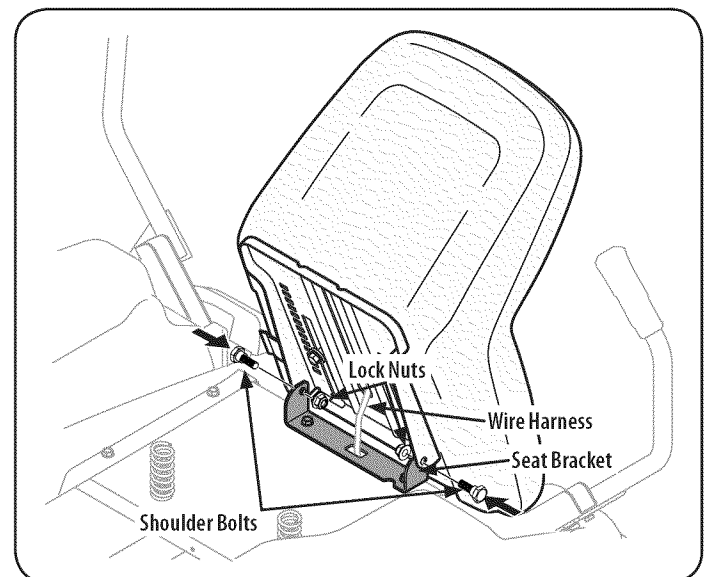

Figure 3
3. Rotate the seat into position and secure the seat into place with the previously removed shoulder bolts and lock nuts. Be careful not to crimp or damage the wire harness while installing the seat. See Figure 3.